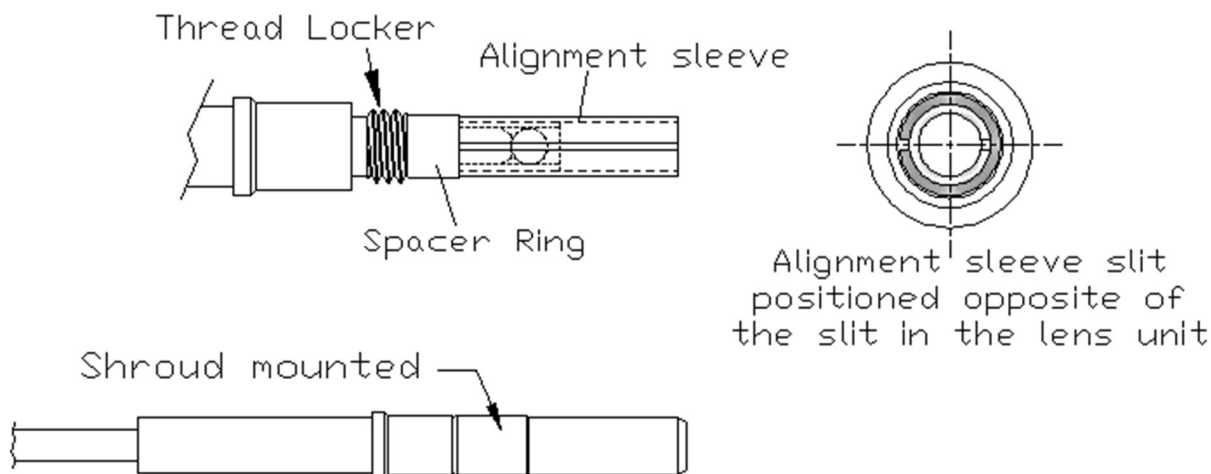

Figure 8
- Slide the spacer ring over the barrel (see Figure 8).
- Next, slide on the alignment split sleeve with its slit orientation approximate opposite that of the lens-unit (see Figure 8).